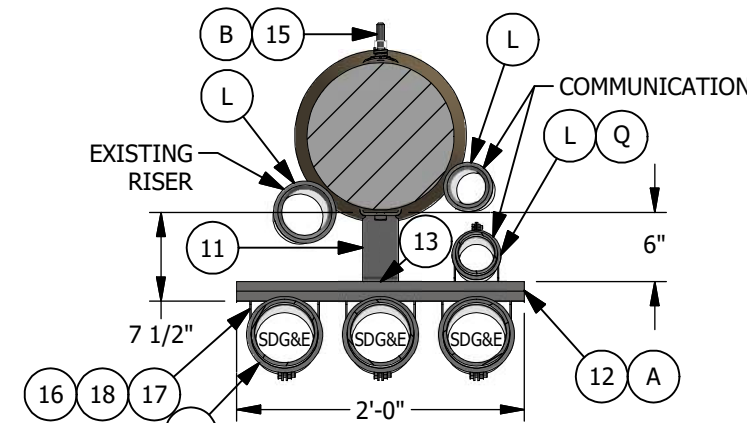
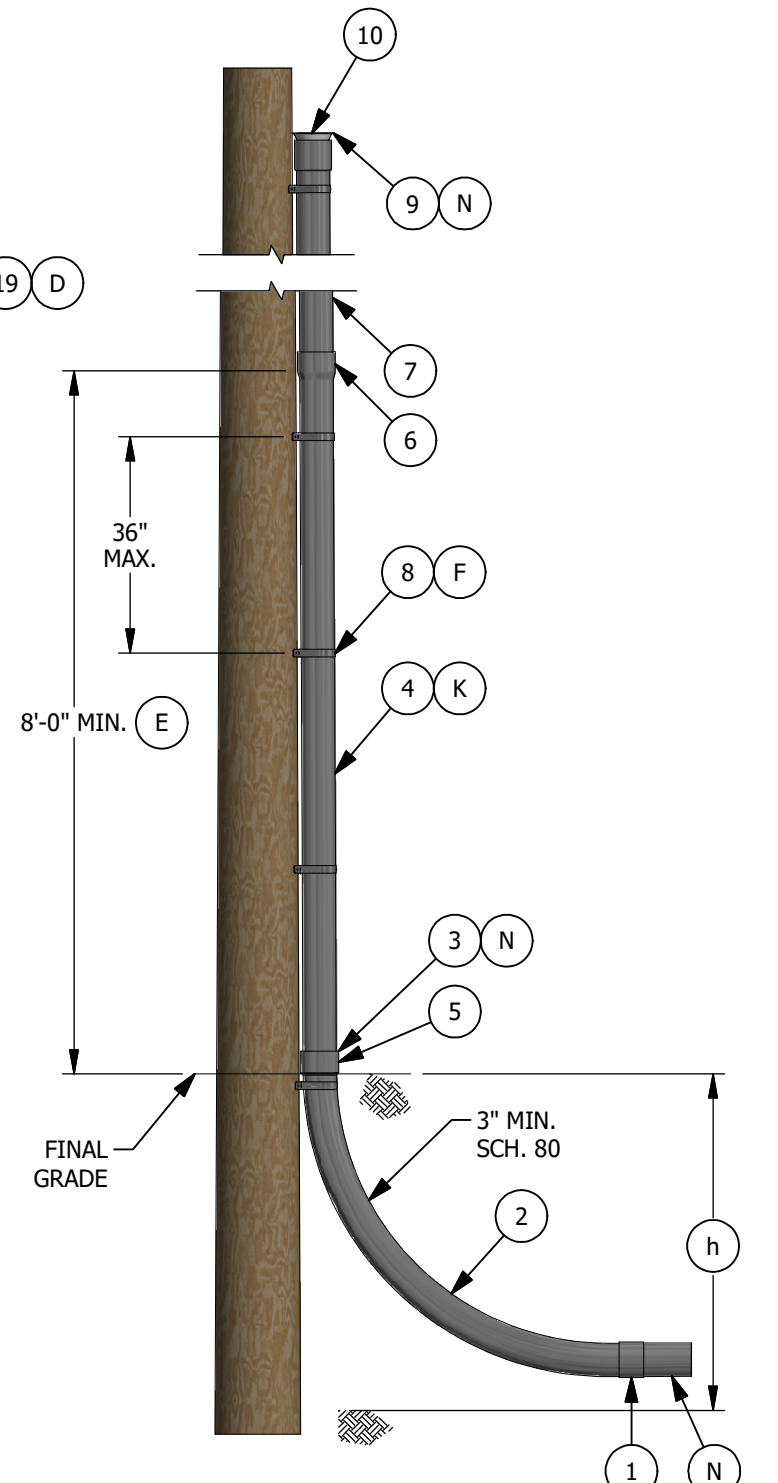

FIGURE 4
FIGURE 5
- (J) USE FIGURE 4:
- WHEN ADDING A RISER(S) TO AN EXISTING SDG&E RISER POLE. AN EXISTING SINGLE SDG&E RISER WOULD REMAIN ON THE POLE UNLESS IT IS CREATING A G.O. INFRACTION. IF AN INFRACTION EXISTS, MOVE THE EXISTING RISER TO THE LADDER ARM BRACKET.
- (K) USE FIGURE 5 FOR ALTERNATE CONSTRUCTION FOR A SINGLE RISER
- 1. FIELD CONDITIONS DO NOT ALLOW ROOM FOR LADDER ARM BRACKETS, (I.E. CONDUIT WOULD EXTEND INTO THE STREET, SIDEWALK, DRIVEWAY, ETC.). THIS INSTALLATION WOULD BE LIMITED TO ONE SDG&E RISER, UP TO 3" (NO OTHER RISER(S) LARGER THAN 3 INCH WOULD BE ON THE POLE). ONE HALF OF THE POLE MUST REMAIN CLEAR FOR CLIMBING SPACE AND G.O. REQUIREMENTS MUST BE FOLLOWED.
- (L) ONE RISER ON THE POLE 3-INCH MAX. AND ONE RISER ON THE BACK SIDE OF THE LADDER ARM BRACKET 3-INCH MAX. ARE PERMITTED BACK-TO-BACK. A MAXIMUM OF TWO 4-INCH COMMUNICATIONS RISERS ARE PERMITTED ON THE BACK SIDE OF A LADDER ARM ASSEMBLY. THE ADJACENT POLE QUADRANT MUST BE VACANT TO INSTALL ANY 4 INCH RISER ON THE BACK OF THE LADDER ARM BRACKET, AND MUST REMAIN VACANT AFTER INSTALLATION.
- (M) SLURRY ENCASEMENT IS REQUIRED AROUND THE ELBOW(S) FOR 5-INCH PRIMARY CONDUIT(S).
- (N) EACH CONDUIT RUN BETWEEN SUBSTRUCTURES, PADS, CUSTOMER SERVICE RISERS, ETC., SHALL BE ONE SIZE CONDUIT CONTINUOUSLY, I.E. NO REDUCERS ARE ALLOWED WITHIN A CONDUIT RUN EXCEPT WHERE THE CONDUIT ENTERS A SUBSTRUCTURE OR ABOVE GROUND LEVEL ON A RISER POLE. IF A 3-INCH RISER IS ALREADY INSTALLED AND THE GRIP SIZE REQUIRES A 2-INCH RISER, A 2" TO 3" REDUCER MAY BE USED TO ACCOMMODATE THE GRIP. THE SAME WOULD APPLY TO OTHER SIZE CONDUITS AS HAS BEEN DESCRIBED. GRIPS ARE NOT REQUIRED ON SECONDARY RISERS.
- (O) SPARE CONDUIT REFERS TO AN EMPTY CONDUIT THAT IS SPECIFIED BY THE PLANNER FOR OPERATING AND MAINTENANCE REQUIREMENTS.